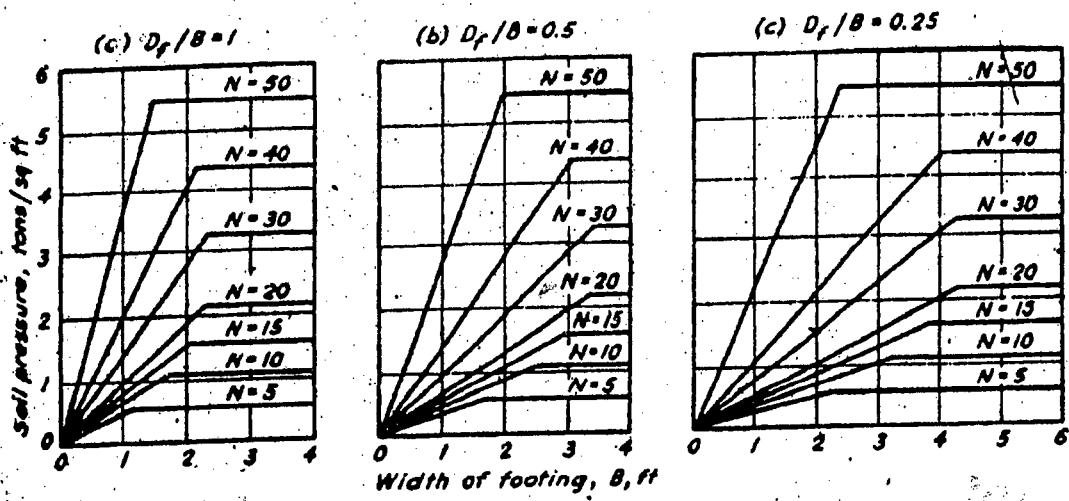

Fig. 3
2. (a) Discuss the relationships those exist among soil pressure, width of footing and settlement of footing for narrow, intermediate and wide footing resting on sand. Also out line a procedure, how design chart for proportionating shallow foundation can be constructed from the above relationships. (11)
(b) Estimate the settlement of the footing shown in Fig. 2. Compute the factor of safety against a bearing capacity failure. The unit weight of the sand is 115 lb/cu.ft. Given N value is corrected for overburden pressure. Use Fig. 3 and Fig. 4 to solve this problem. (17)